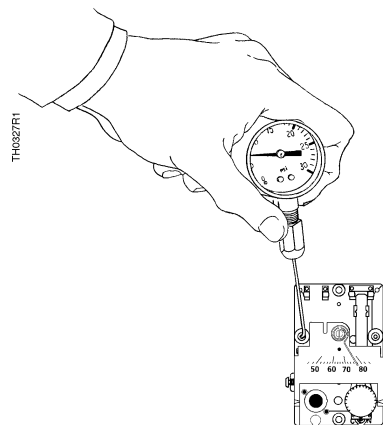

Figure 5. TH192 S Thermostat Output Pressure Test Port.
The output pressure test port (*Figure 5*) is accessible without removing the thermostat cover through the 8th opening:
4. Moisten the needle and insert the test gauge and needle adapter in the output pressure test port (*Figure 5*). Read the control pressure.
Before troubleshooting the thermostat per *Table 1*, make certain there is clean dry supply air at 18 psi (124 kPa) minimum. Use the test probe gauge and needle adapter to measure the control pressure at the output test port (*Figure 5*). The output pressure test port is accessible without removing the thermostat cover through the 8th opening from the top as follows: